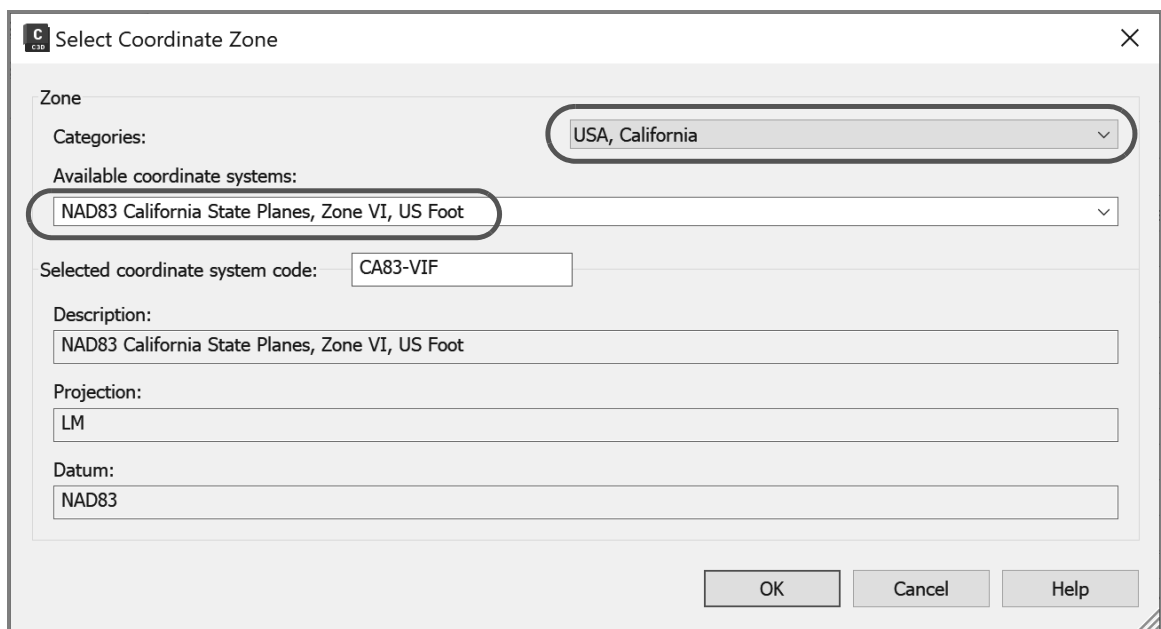

Figure 2-46
10. From the *Available coordinate systems* drop-down, select **NAD83 California State Planes, Zone VI, US Foot** (as shown in Figure 2-46).